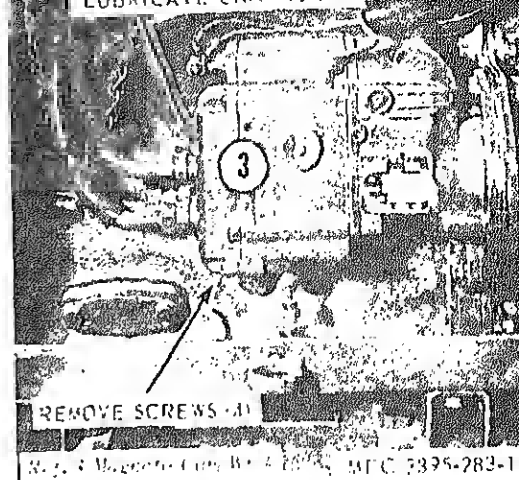

Figure 3-4. Magneto Cam Wick.
h. Magneto Cam Wick. Service the magneto cam wick as illustrated in figure 3-4.